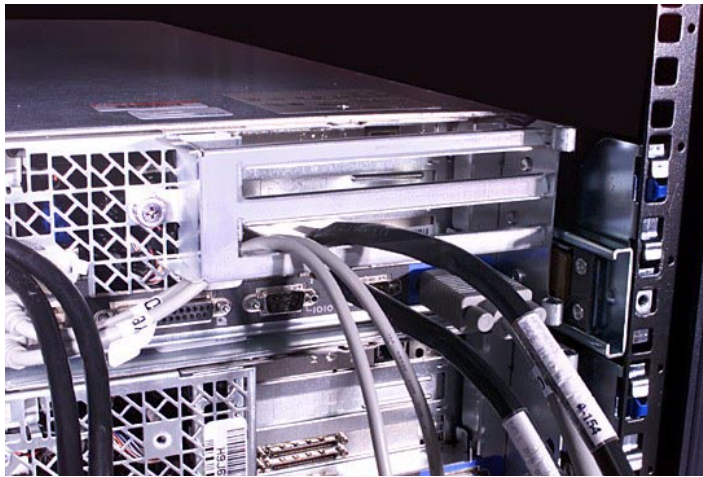

Figure 5. Securing the Strain Relief Bracket to the System
4. Put one SCSI cable and the PS/2 cables of the KVM cable through the bottom slot of the strain relief bracket (see Figure 5); position the other SCSI cable and the video cable of the KVM cable underneath the strain relief bracket.
5. Secure the strain relief bracket to the system as shown in Figure 5 by installing the bracket's thumbscrew into the appropriate hole on the chassis.